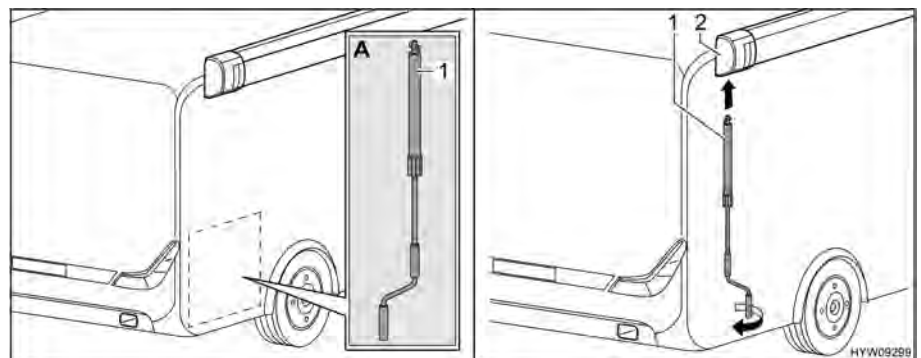

Fig. 11 Installing crank
- Take crank (Fig. 11,1) out of the rear garage (Fig. 11,A).
- Insert crank into bayonet socket (Fig. 11,2) of the awning.